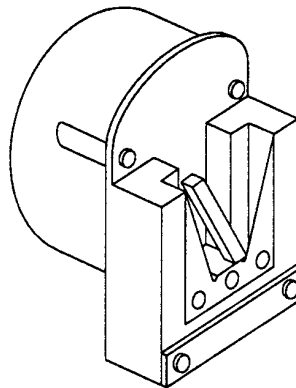

Figure 16 - Pneumatic De-Lugging Shears
5.3.15 Pneumatic De-Lugging Shears (see Figure 16)